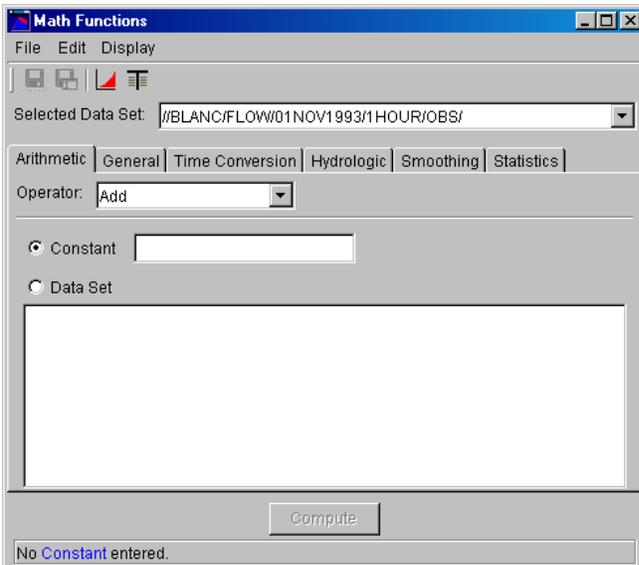

Figure E.11 HEC-DssVue Math Functions Dialog Box
2. Choose **Math Functions** from the **Utilities** menu. A dialog box will appear, as shown in Figure E.11.